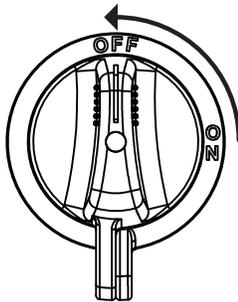

Figure 175. Battery Switch (OFF)
- Wait at least two minutes to allow the DEF system to purge, then place the **Battery switch** (Figure 175) in the **OFF** position.